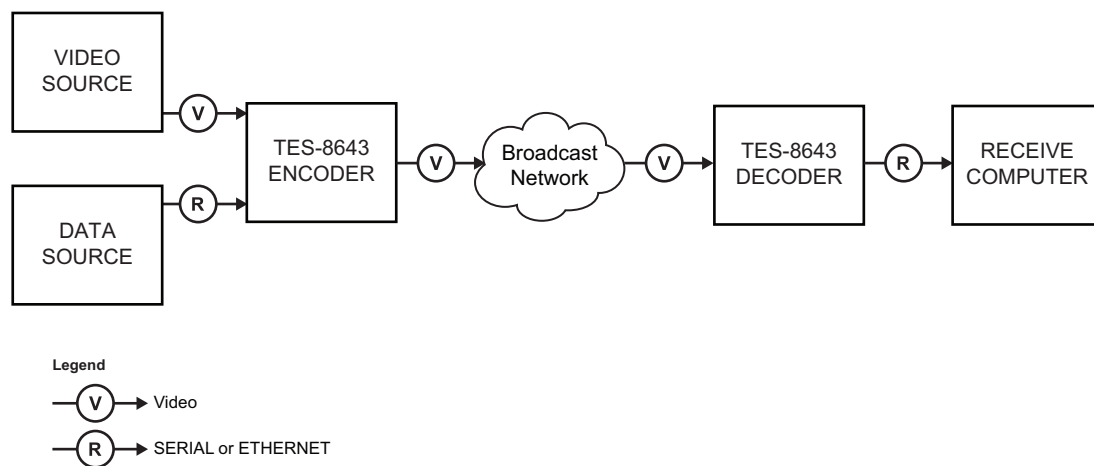

Figure 12.1 Work Flow Diagram — Simple Data Distribution System
**Figure 12.1** shows the pieces of equipment involved in a simple data distribution system. In this configuration, there are two TES-8643 with one acting as an encoder, and the second as a decoder.
This section briefly describes the components seen in the use case presented in **Figure 12.1**.
This section outlines how to configure each TES-8643 seen in the example in **Figure 12.1**.